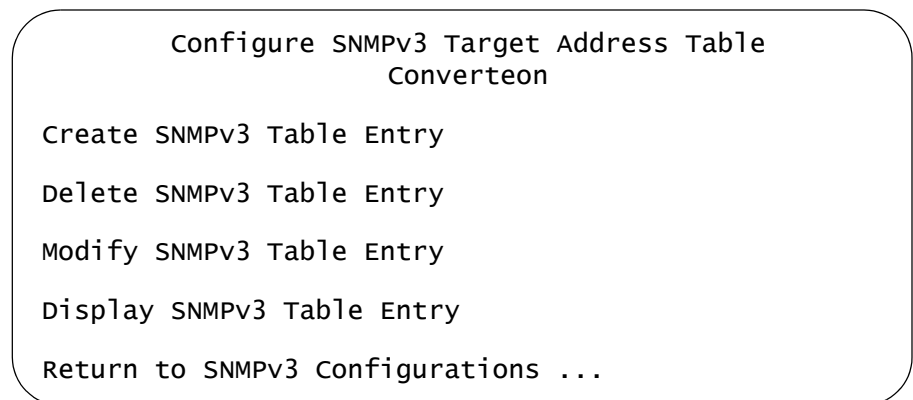

Figure 134. Configure SNMPv3 Target Address Table Menu
- From the Main Menu, select **Configuration -> System Configuration -> System Parameters Configuration -> SNMPv3 Configurations -> Configure SNMPv3 Target Address Table**. The Configure SNMPv3 Target Address Table menu is shown in Figure 134.